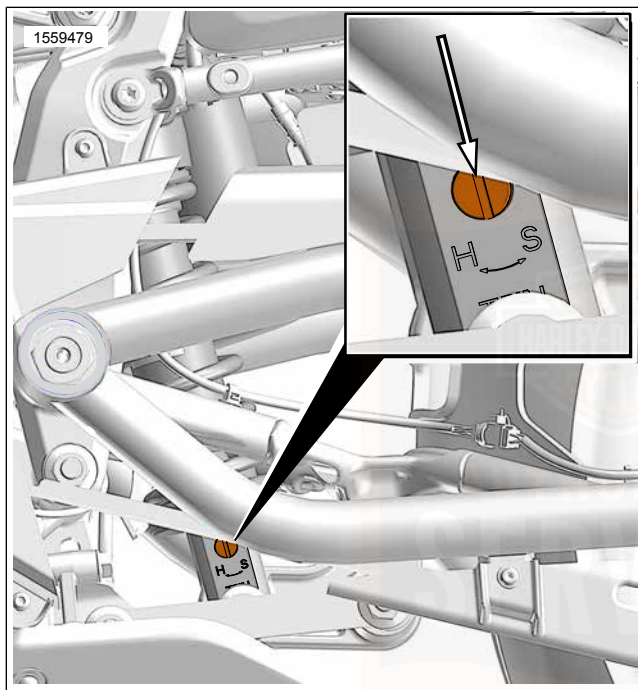

Figure 19. Rebound Adjuster
1. See Figure 19. Use a flat blade screwdriver to turn rebound adjuster clockwise in the H (hard) direction until it stops. This is the maximum rebound damping setting.
2. See Figure 19. Use a flat blade screwdriver to turn compression adjuster clockwise in the H (hard) direction until it stops. This is the maximum compression damping setting.